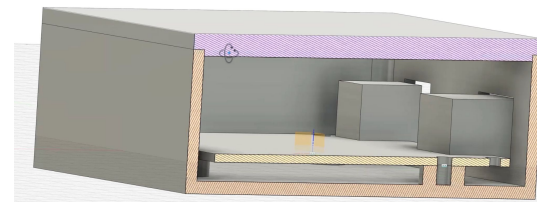

Figure 1.4
- Once complete, turn the box back on you'll see a small lip fitting neatly into the box's cavity see (Figure 1.4).